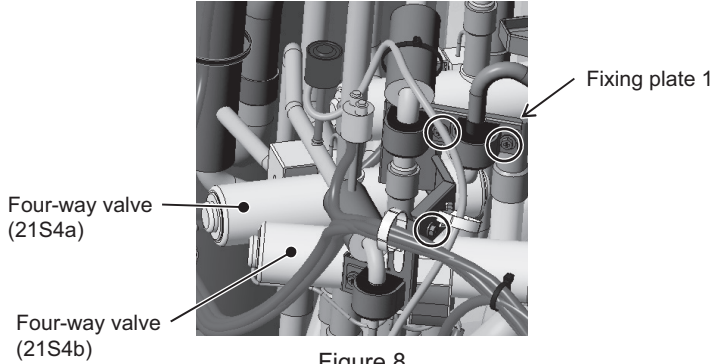

Figure 8
- (1) Remove the front heat exchanger. Refer to 8-13-11 Maintenance Procedures for the Heat Exchanger <Type A> or 8-13-12 Maintenance Procedures for the Heat Exchanger <Type A1/Type A2> for details.
- (2) Remove the top, front, and right compressor covers. Refer to 8-13-6 Compressor Replacement Procedure <Type A> or 8-13-7 Compressor Replacement Procedure <Type A1/Type A2> for details.
- (3) Remove the fixing plate 1 above four-way valve (21S4b), saddle, and rubber spacer by unscrewing the three screws shown in Figure 8.